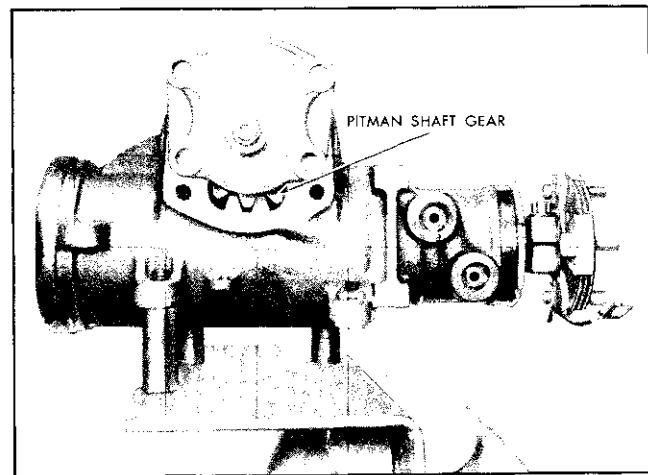

Fig. 9-49 Position of Pitman Shaft Gear for Removal
2. Rotate cover as necessary to see when pitman shaft is centered in gear housing opening while rotating gear flange (Fig. 9-49).